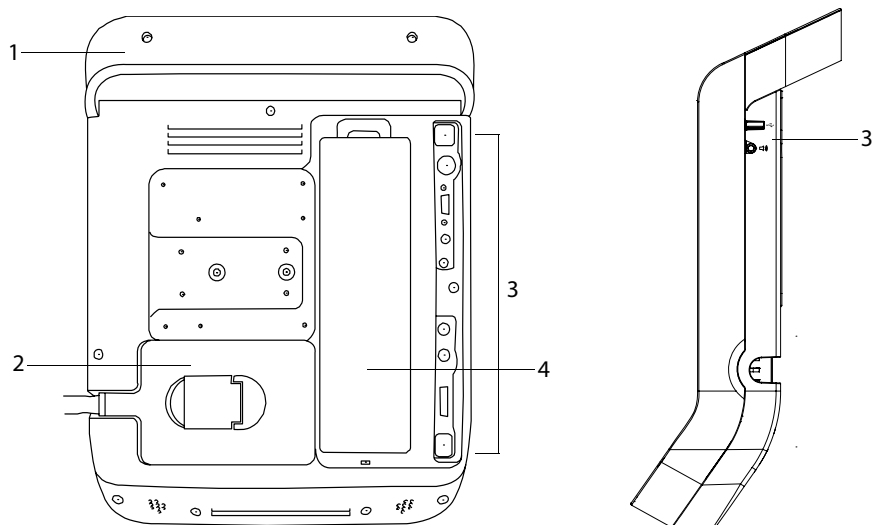

Figure 1.1 System Back (Left) and Side (Right):
- 1 Connect the DC power cable from the power supply to the connector on the system. See Figure 1.1 on page 2.
- ❖ Insert the USB storage device into a USB port on the system. See Figure 1.1 on page 2.